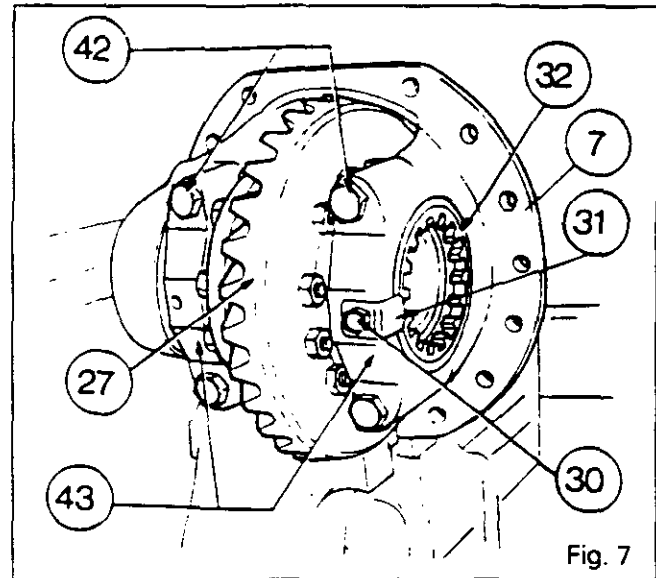
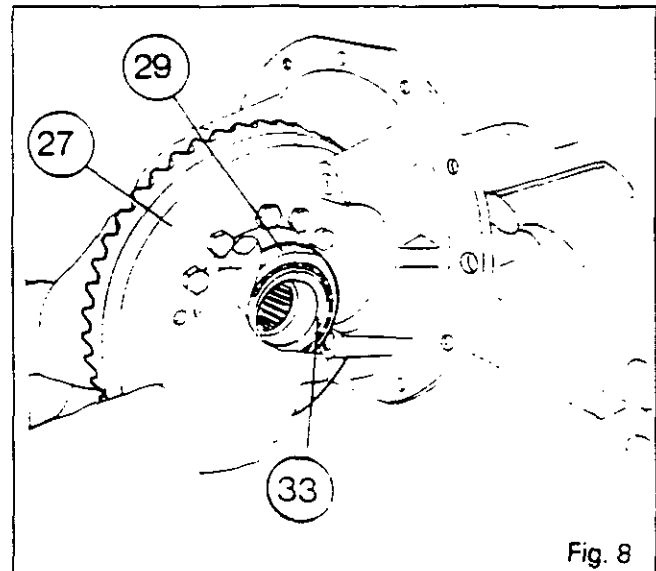
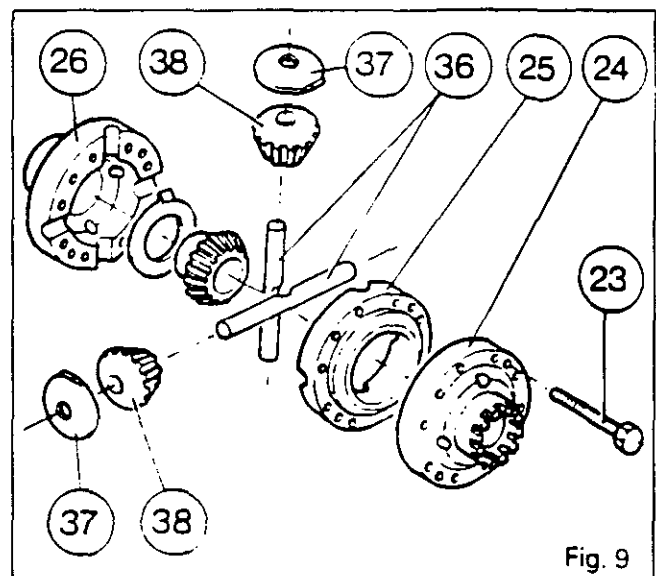

Fig. 7
Fig. 8
Fig. 9
17. Place the casing (7) in a soft-jawed vice (Fig. 7).
18. Remove the bolt (30) and its retainer (31) (Fig. 7).
19. Remove the splined nut (32) using the special, locally made spanner (see section M).
20. Remove the four screws (42), detach the bearing halves (43) (Fig. 7).
- Note : Carefully remove the bearing half on the lock control side ; with the spring /17/ compressed, the washer (21) should remain in the casing (7).**
21. Remove the complete differential assembly with the bearing cones (33) and the cups (29) (Fig. 8). Separate the cups from the taper roller bearings. Remove the shim(s) [22].
22. If necessary, extract the two bearing cones (33).
23. Place the differential assembly in a soft-jawed vice. Remove the nuts (28). Take out the bolts (23).
- Note : Prior to disassembly, mark the position of the bearing halves (25) and (26) and of the cover (24) so that they can be paired when refitting.**
24. Separate the bearing halves (25), (26) and the cover (24).
25. Remove the gear (11) and washers (35).
26. According to category, separate one or two pins (36), the planetary pinions (38) and the spherical washers (37) (Fig. 9).
64. Fit the other bearing cone (33) (if removed) on the cover (24).
65. Assemble the housing half (25) in the cover (24) (with claw teeth) observing the marking made at the time of dismantling.
66. Position the washer (35) on the axle gear (11). Place the assembly in the housing half (25), putting the tab of the washer in one of the holes of the housing half.
67. According to category, place the corresponding number of planetary pinions (38) and washers (37) on two or one pin (36). Then place the assemblies in the housing half (25), putting the tabs of the spherical washers (37) in the holes of the housing half (25) (Fig. 9).
68. Place the other washer (35) on the other gear (11). Place the assembly in the housing half (26), taking care to ensure that the position of the tab of the washer (35) is correct.
69. Position the housing half (26) assembly on the housing half (25) maintaining the assembly position marked at the time of dismantling.
70. Position the crownwheel (27) on the housing half (26). Fasten together the housing halves (25) and (26), the cover (24) and the crownwheel. Fit the bolts (23) and smear them with Loctite 270. Tighten the nuts (28) to a torque of 79 - 87 Nm.
71. Position the cups (29) on their cones (33).
72. Place the crownwheel assembly in the casing (7) (Fig. 8).
73. Check that the centring bushes (44) are present. Fit the shims (22). Position the bearing halves (43). Moderately tighten the bolts (42) so that the cups (29) move freely.